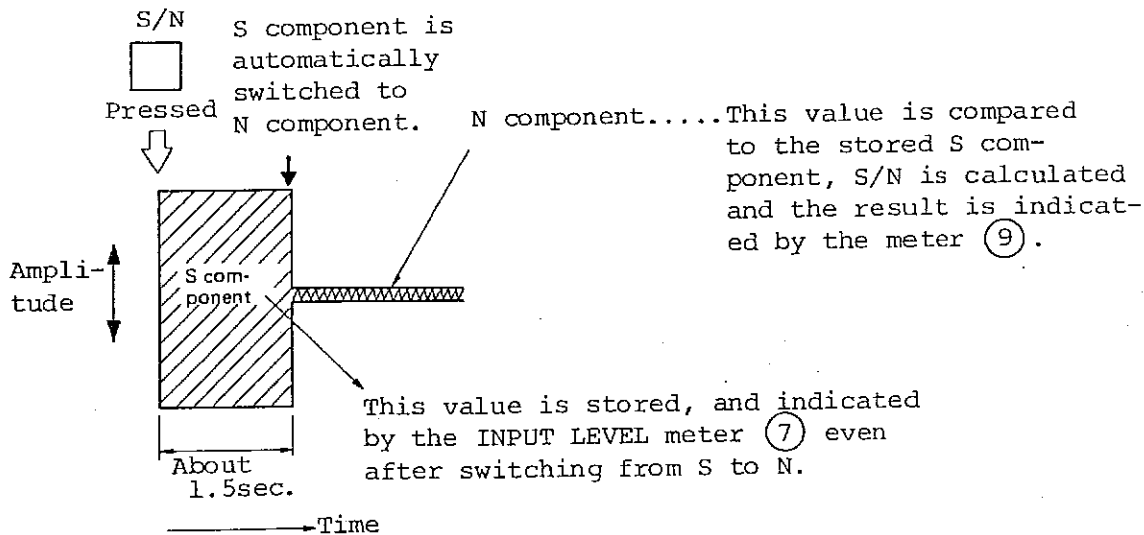

Fig. 4-3 S/N measurement
- 35) The S/N ratio is calculated as the ratio of the S (signal) component to N (noise) component. The meter (9) indicates the result. Pressing the S/N key causes the analyzer to operate as shown in Fig. 4-3.
- 36) As shown in Fig. 4-3, pressing the S/N key causes the output of the oscillator to be stored as the S component. (In this case, 10-dB signal is applied to the measurement circuit because the output amplitude of 4.0 dB is displayed, and the output is not terminated with a 600-ohm load.) The INPUT LEVEL meter (7) goes into the 10-dB range and indicates 10 dB (3.2 V). The S/N meter (9) is placed in the 0-dB range. The operation described above is performed for 1.5 seconds as shown in Fig. 4-3. The S component is then eliminated and only the N component is left. (The S component input level of 10 dB is stored and the INPUT LEVEL meter (7) retains the deflection.) Because the oscillator provides no output, most of the N component is the residual noise within the measurement circuit. The S/N ratio is calculated from the stored S level and the residual N level; the range of the meter (9) automatically changes, and the meter provides direct indication of the S/N ratio.
- 37) The REF ADJ knob (10) has no effect while the S/N ratio is measured.
- 39) The meter range can be switched manually by pressing the RANGING key (14) with the LED in the key on indicating MANUAL mode. In this mode, after the S/N key is pressed and the S component stored, the 0-dB meter range display LED is lit if the input meter range is appropriate for the input S component level. To read the S/N ratio, lower the range to the desired level by pressing the ∇ key of the MEASUREMENT RANGE select keys (13). If an incorrect input meter range is selected, either LED built in the INPUT RANGE OVER/UNDER keys (15) annunciates, indicating excessive input (OVER) or too little input (UNDER) for 1.5 seconds of S component measurement period. Select another range by pressing the key until the annunciator goes off during S component measurement. When the key is pressed, S/N will be measured without the need of pressing the S/N key again.